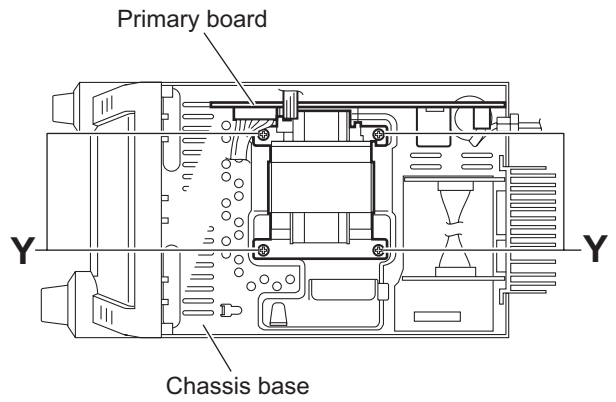

Fig.24
(5) From the top and left sides of the main body, remove the four screws Y and screw Z attaching the primary board on the chassis base. (See Figs.24 and 25.)